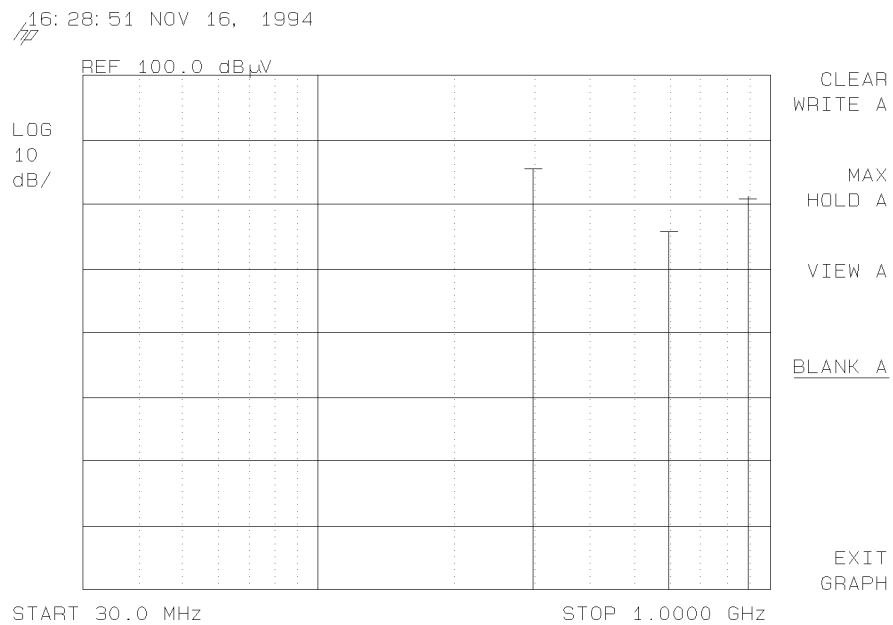

**Figure 1-5. Displaying the List as a Log Graph**
11. Press **SAVE LOG GRAPH** to view the signals in the list on a log graph. To clear the display's active function area, press **(ENTER)** key (front-panel's lower-right corner). Refer to Figure 1-5.